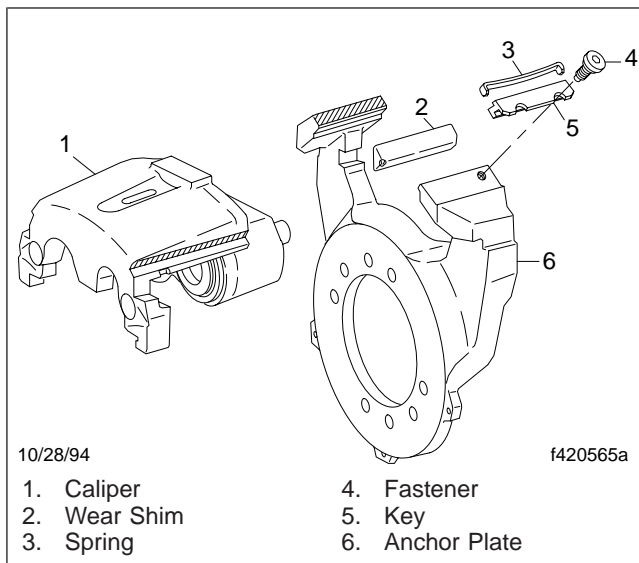

Fig. 6, Anchor Plate and Key Fastener
5. Remove the key-retaining fastener from the anchor plate. See **Fig. 6**.